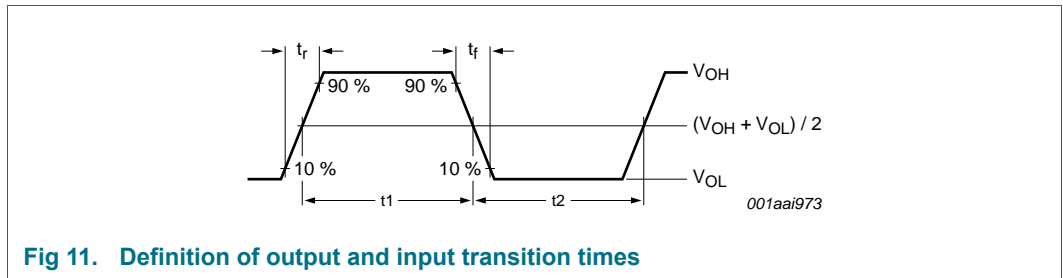

Fig 11. Definition of output and input transition times
- [5] The transition time and the duty factor definitions are shown in Figure 11 on page 21;  $\delta = t1 / (t1 + t2)$ .